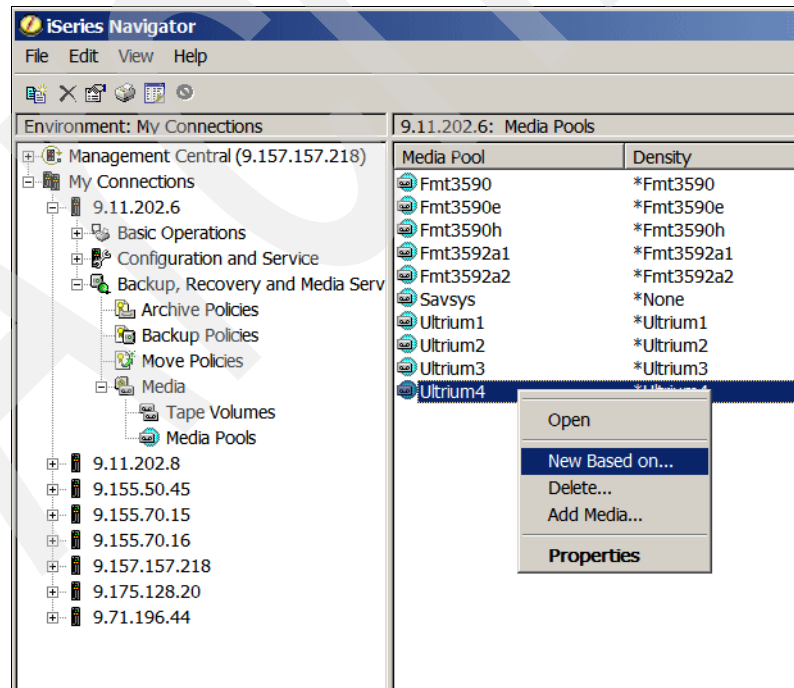

Figure 6-2 Add new Media pool
- BRMS comes with default media pools such as Ultrium4, Ultrium3, and Fmt3582a1. To create a new media pool based on cartridge density and other properties of an existing media pool, right-click the media pool, and select **New Based on** from the pull-down menu, as shown in Figure 6-2.